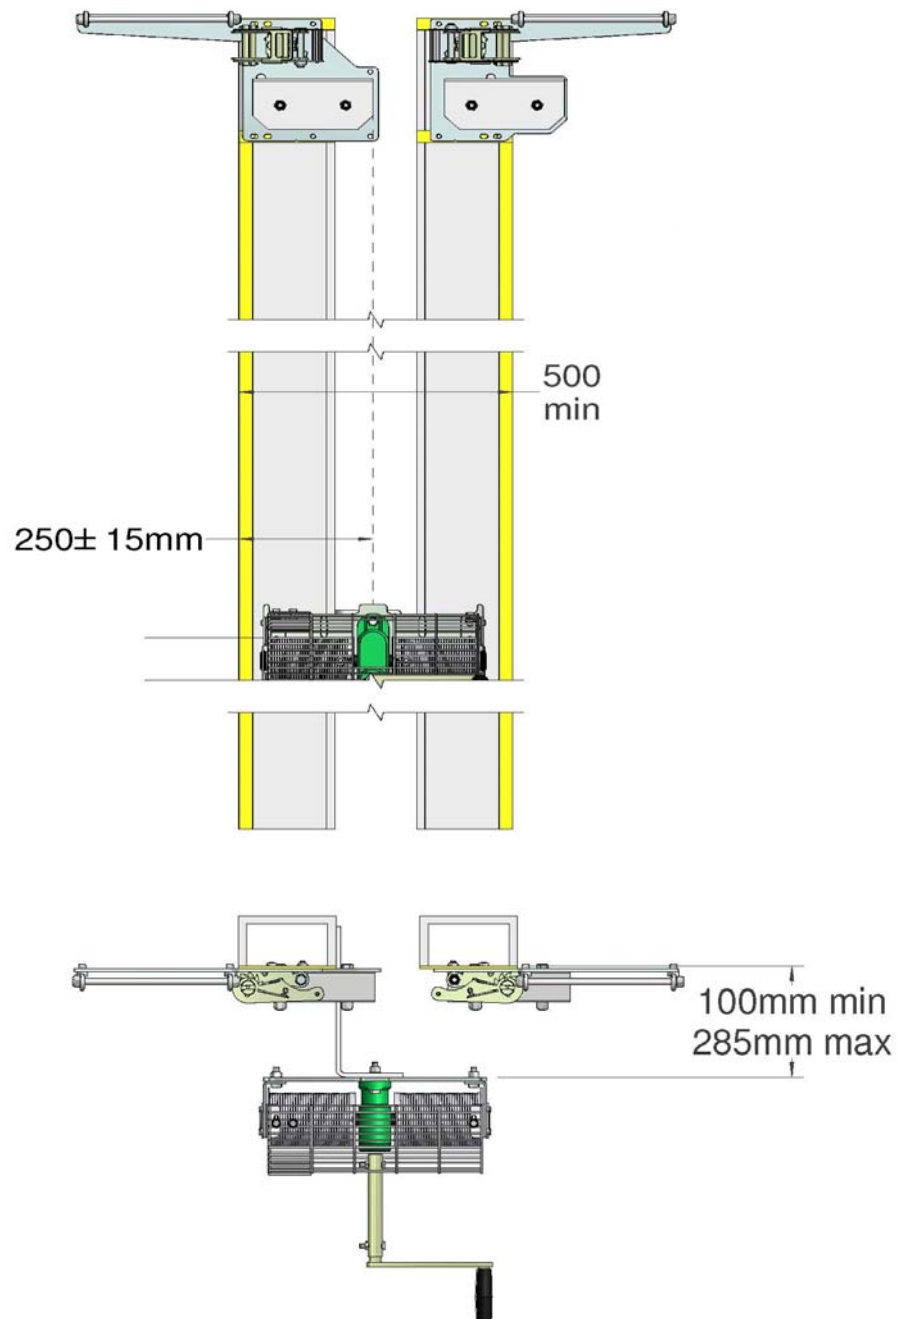

Figure 11
11. One drive centrally positioned: Suggestion for the central column based on two individual tracks is shown in Figure 11. Each tracking is independent and details are the same as Area I. Of particular note is the minimum column width of 500mm to prevent the manual drive impacting on the clear width of the opening